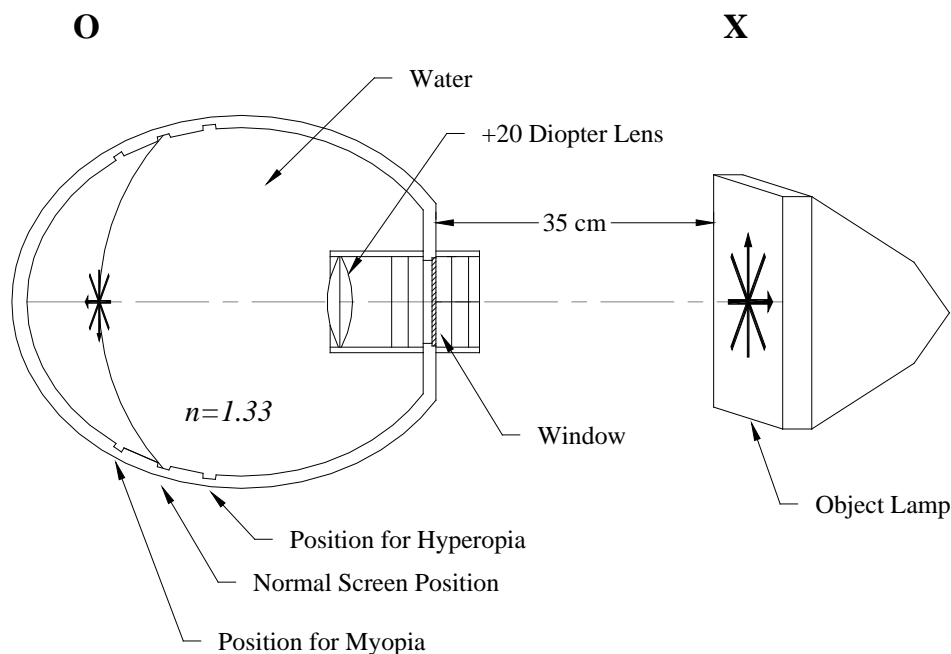

Figure 2 Diagram showing how to setup the eye model.
2) Working with the Ingersoll eye model. Figure 2 is a diagram of the eye model with which you will experiment. The model is first filled with distilled water to within about 2 cm. of the top. This is to simulate the vitreous humor of the eye. The movable screen represents the retina. A small black box contains the lenses to be used with the eye model. Find the +20 Diopter lens and place it in the slot closest to the retina. This simulates the crystalline lens. Move the screen in the eye model, which represents the retina, to the center (normal) position. The illuminated object should